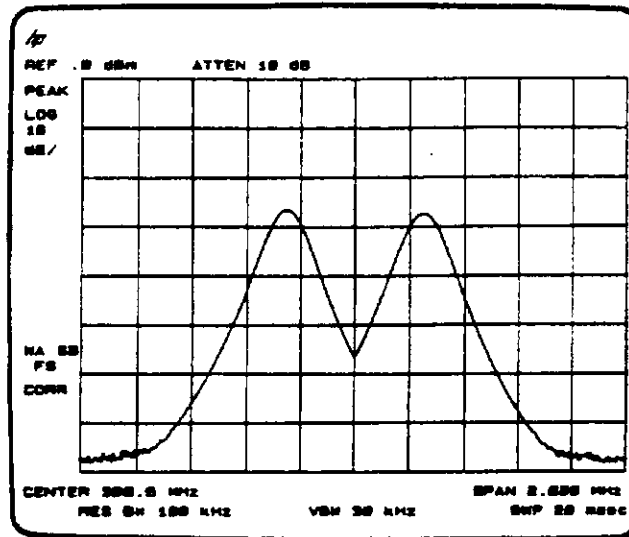

Figure 2-8
3. Since the resolution bandwidth must be less than or equal to the frequency separation of the two signals, a resolution bandwidth of 100 kHz must be used. Press **[SWP/BW]**, **[RES BW]**, and **[1]**, **[0]**, **[0]**, **[kHz]**. You can also use the knob and step keys to change the resolution bandwidth. See Figure 2-8.